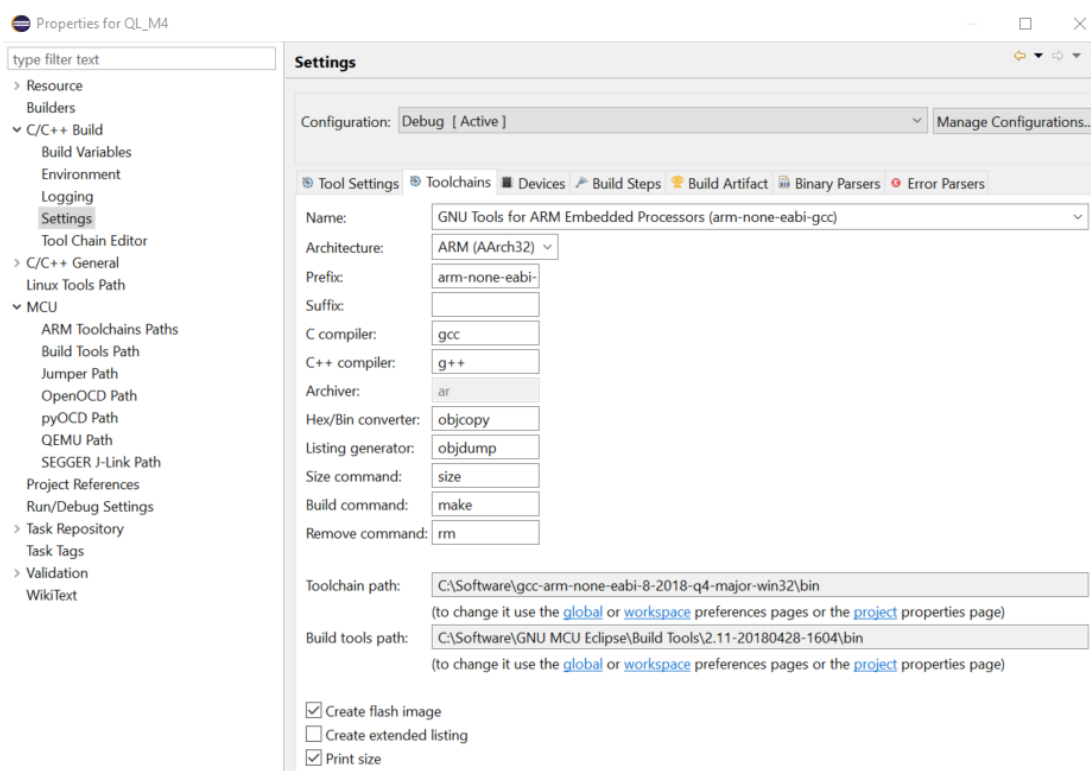

Figure 13 Toolchains and Build Tools Path
- Click on **C/C++ Build >> Settings >> Toolchains** and make sure the **Toolchain Path** and **Build Tool Path** from Section 4.2 are included in the path (Figure 13).